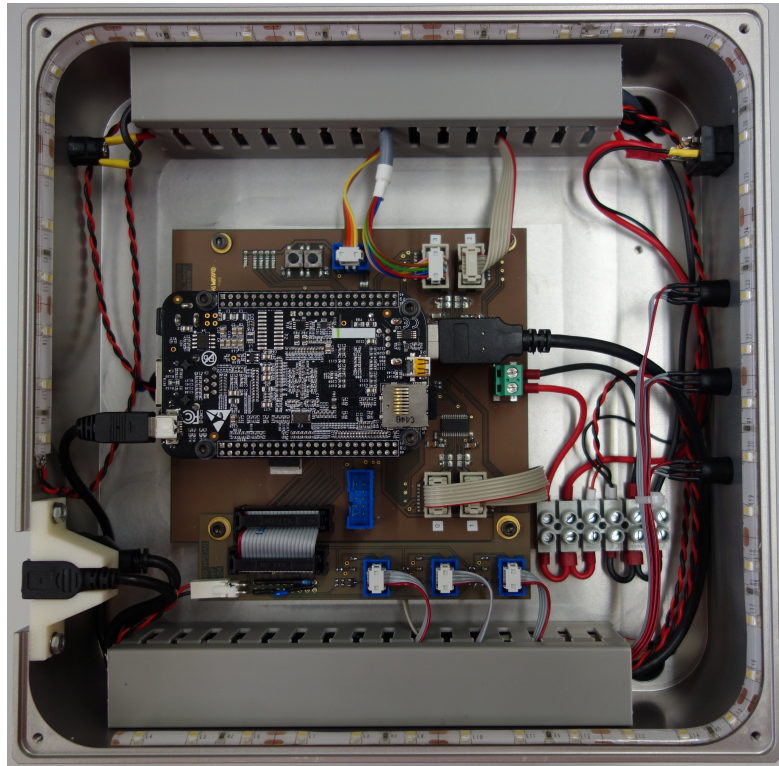

Figure 1.1: Base case with BeagleBone Black mounted
4. Plug the BeagleBone on the headers in the middle of the main board as shown in figure 1.1.